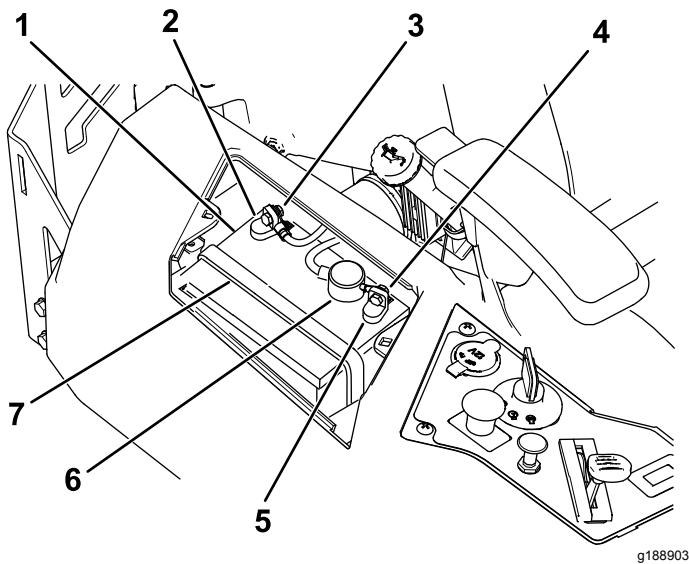

Figure 54
4. Disconnect the negative (black) ground cable from the battery post (Figure 54).
6. Disconnect the positive (red) cable from the battery post (Figure 54).
7. Remove the battery hold-down (Figure 54), and lift the battery from the battery tray.
1. Position the battery in the tray (Figure 54).
5. Secure the battery with the hold-down (Figure 54).